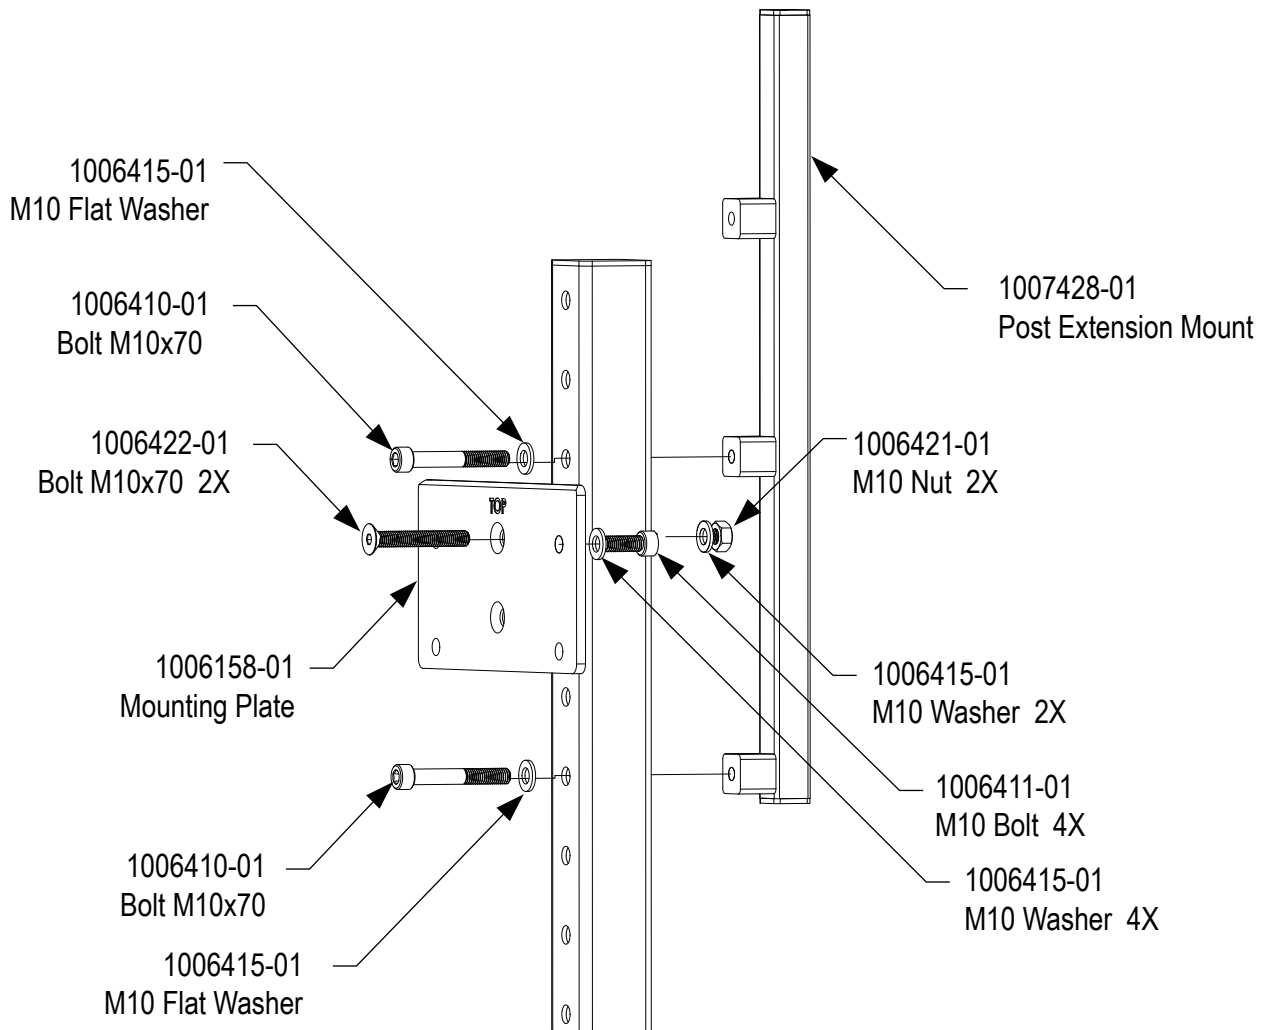

Figure 5: Post Extension Mount
3. Install the post extension mount on the back of the hitch post using the M10 bolts (1006410-01 2 ea) and M10 washers (1006415-01 2 ea). The post extension mount (1007428-01 1 ea) can be mounted in any orientation and location to accommodate the crossbar assembly. See Figure 5.